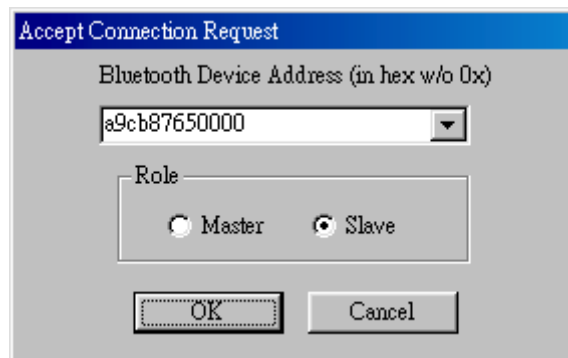
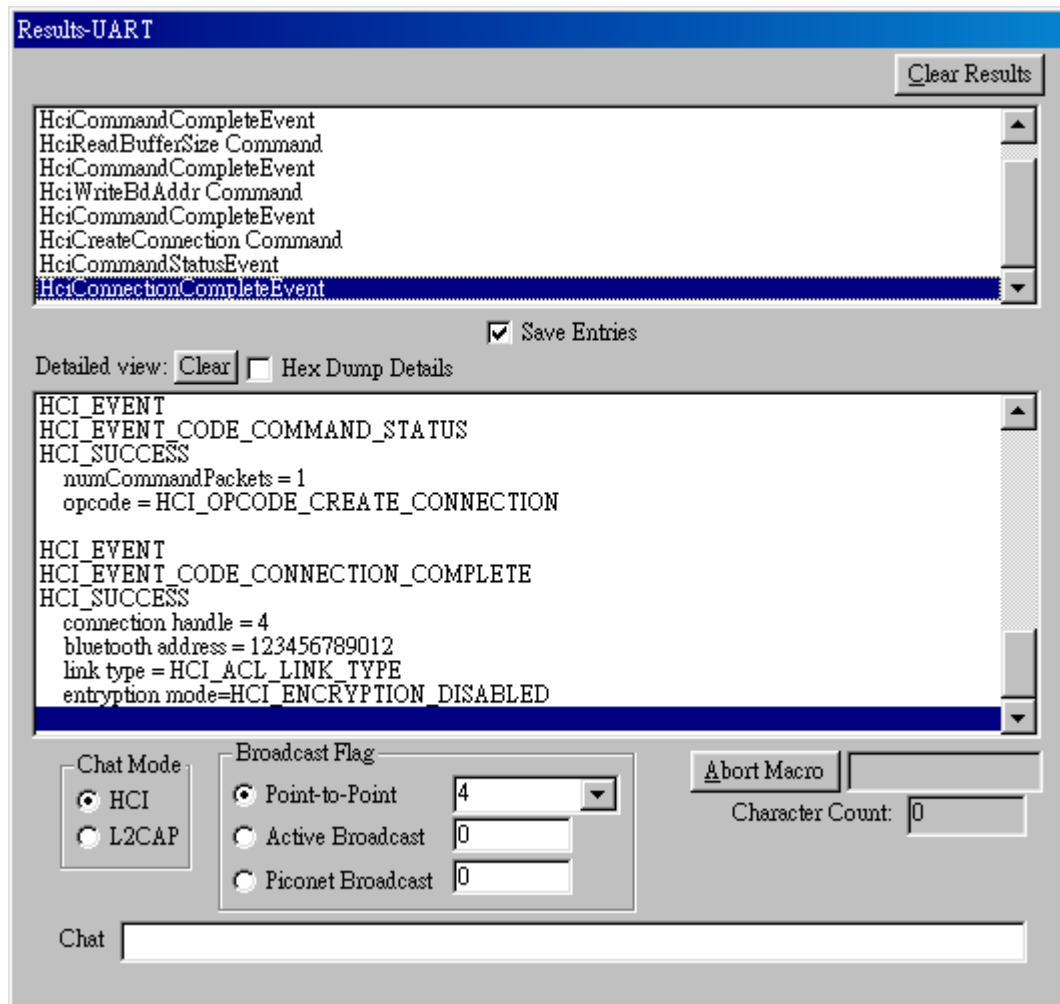

Figure 21: Accept Connection Request from Master Device
Figure 22: Successful Connection Result on Master Device
9. On the Slave computer, a “Accept Connection Request” window will appear, click on the “Write Scan Enable” button immediately before timeout. (as Figure 21). Please see the “Result” window for detailed information. (as Figure 22)